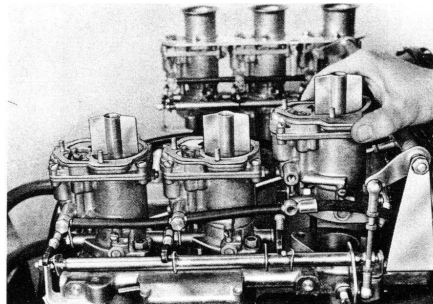
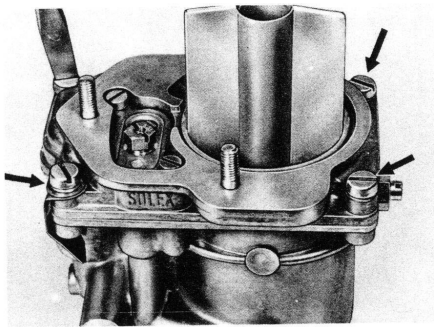

Fig. 3
Fig. 4
The fuel passes through the idle metering jet (g) where it mixes with air entering through the idle air bleed (4) and changes into a fuel/air emulsion. This emulsion is channeled to four small discharge ports located next to the throttle valve. The emulsion flow through the lowest port is controlled by the idle mixture adjusting screw. Idle mixture required for idling is drawn from this port when the throttle valve is set for idling. The upper three orifices are by-pass ports and have differing functions. The port located exactly at the throttle valve disc (see Fig. 3) boosts the idle mixture. The two topmost ports, located just above the throttle valve disc, become active as the throttle valve opens, and supply additional fuel emulsion to ensure a smooth response from idling to power (see Fig. 4). The emulsified fuel mixture leaving these ports mixes with induction air which flows past the throttle valve (2), and is then atomized into the actual idle mixture.